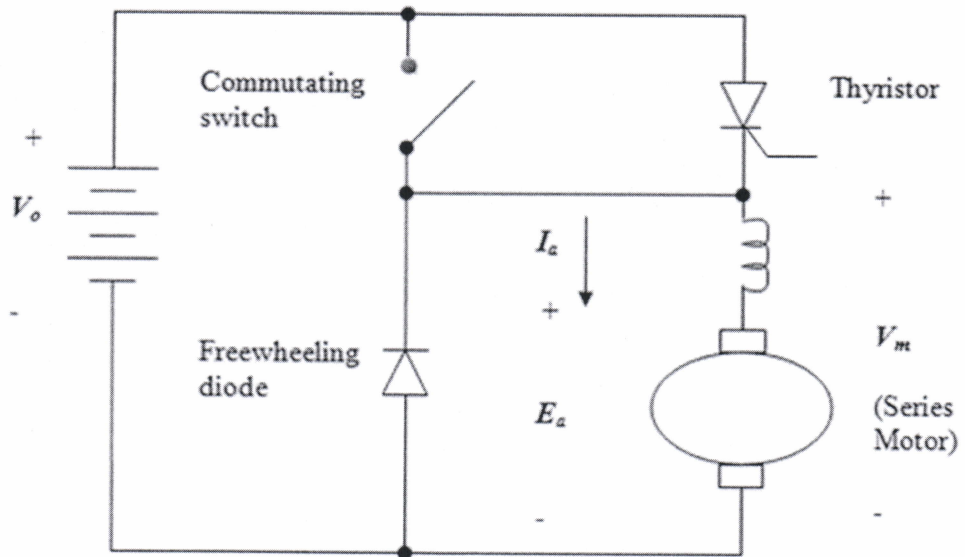

FIGURE Q6(b)
- (b) Describe full operation of the chopper in controlling series motor as shown in **Figure Q6 (b)**.